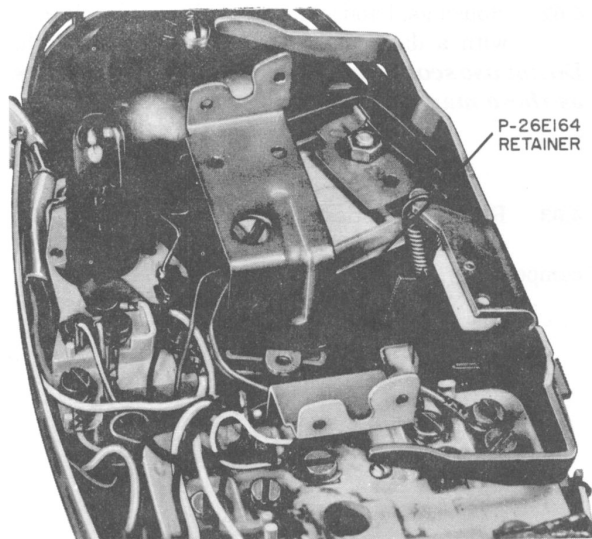
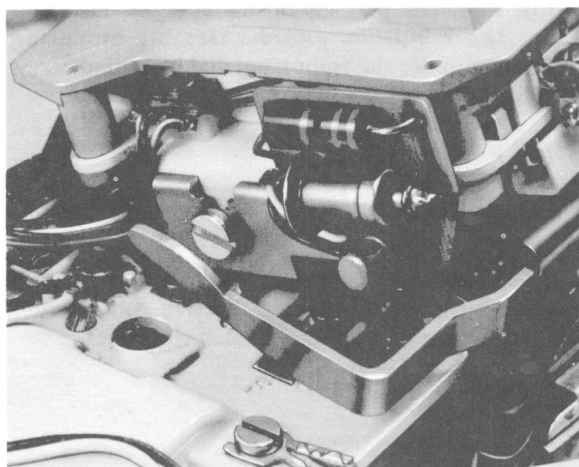

Fig. 4—Installing Terminal Board Retainer in PRINCESS Telephone Set
Fig. 5—Polarity Guard Mounted in PRINCESS Telephone Set
- (1) Remove housing; loosen dial mounting screws and move the dial to one side without disconnecting the dial leads.
- (2) Insert the P-26E164 retainer in left-hand dial mounting bracket (Fig. 4).
- (3) Insert tabs of P-21F675 terminal board into notches in right-hand dial mounting bracket and secure to retainer using P-43A392 screw.
- (4) Connect polarity guard per Table B.
(5) Reinstall dial mounting bracket, securing the P-90D054 guard assembly mounting bracket under the right-hand dial mounting screw (Fig. 5).
(6) Reinstall housing.